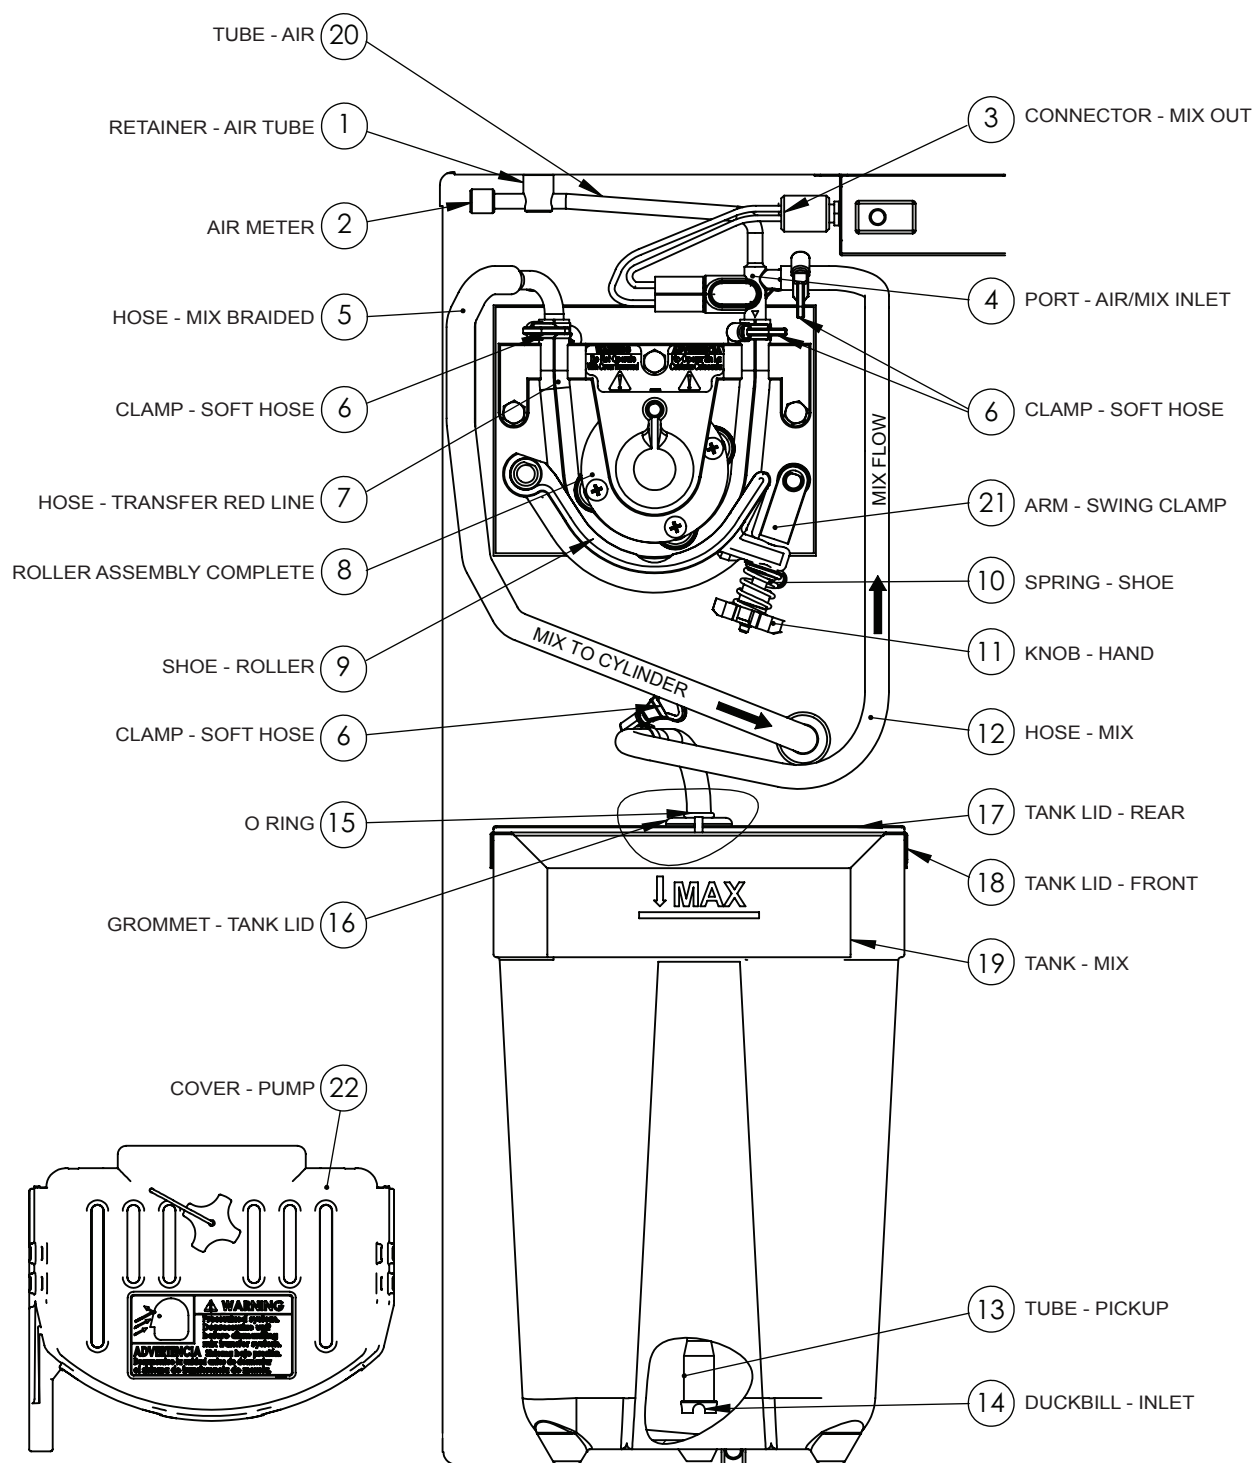

Figure 8-8 MTS (LEFT SIDE*)
26. Insert the MTS cover over stud see figure 8-8. Hose clamps should be exposed. Tighten cover knob. Hand tighten only.